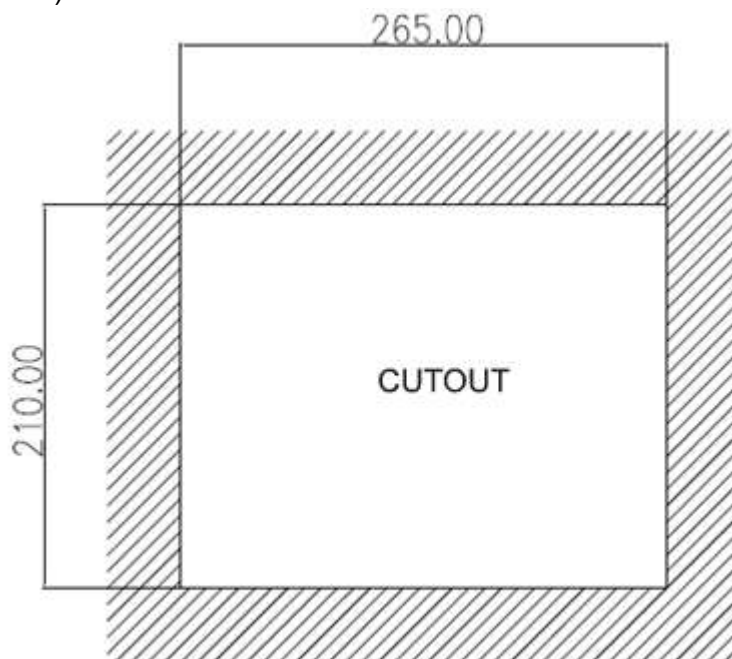

**Figure 2.25 Securing the panel PC**
8. Secure the panel PC in place by tightening screws in the wall mount bracket (Figure 2.25).